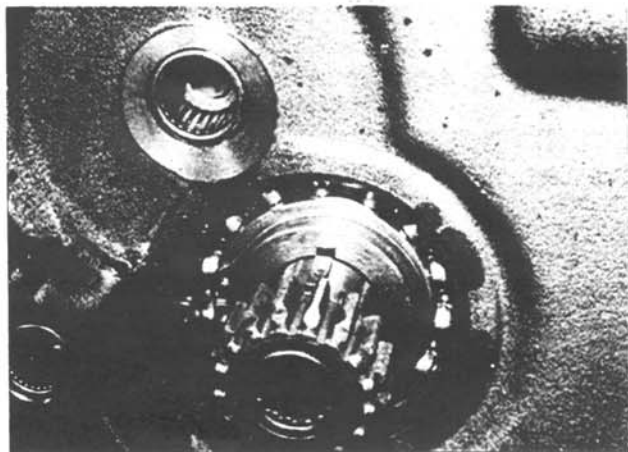

FIGURE 27
1. Put the key in the hub of the gear-bearing assembly which goes on the right end of #1 shaft. Put grease on the hub and slide the gear-bearing assembly into the clutch hub (forward clutch) in the cover. (See Figure 27.)